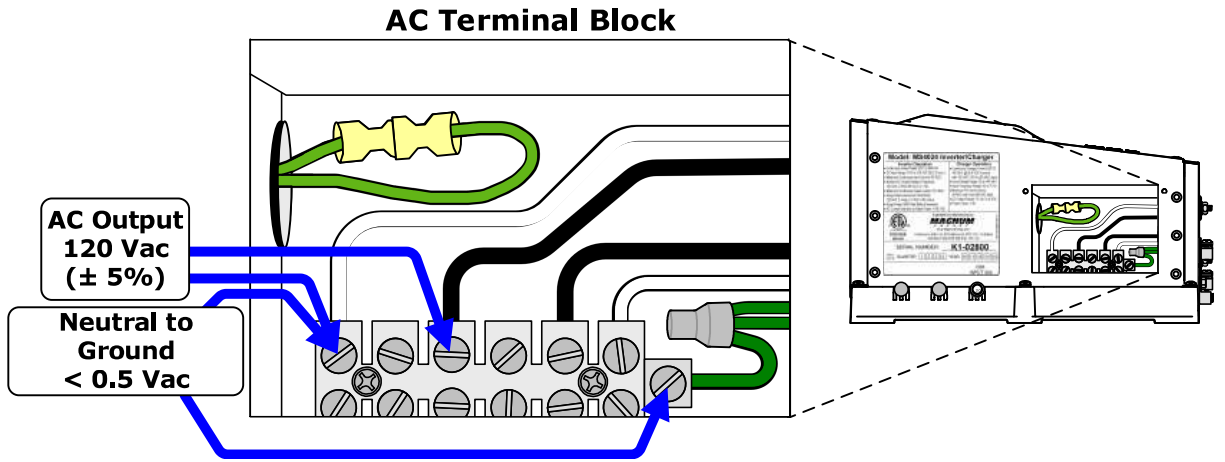

Figure 2-27, AC Voltage Checks
5. Check the AC output voltage of the inverter by connecting an AC voltmeter to the output terminals as shown in Figures 2-27, 2-28, or 2-29 (verify the correct output voltages).